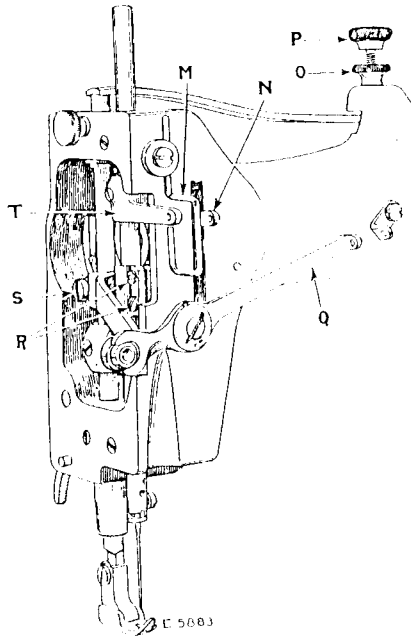
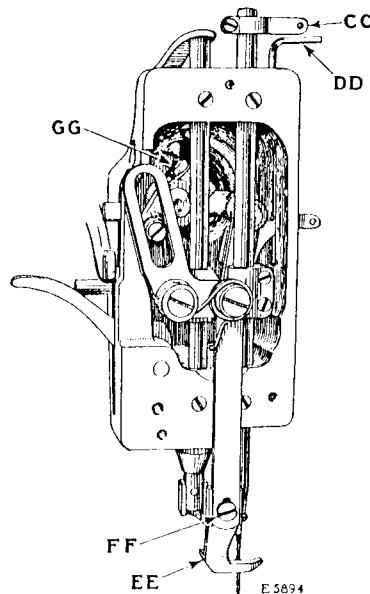

Fig. 2
FIG. 7
In case the needle bar is not set at the correct height, loosen the two screws (R, Fig. 2) in the needle bar connecting stud and move the needle bar up or down, as may be required, then tighten the two screws (R).
The needle thread take-up (T, Fig. 2) is usually set so that its eyelet is about in line with the eyelet in the thread controller (N, Fig. 2) when the needle bar is at its highest point. The needle thread take-up (T) can be adjusted to the required position after loosening the screw which holds it in position on the needle bar.
The purpose of the slack thread regulator (Q, Fig. 2) is to regulate the amount of thread drawn through the tension at the finish of the upward stroke of the needle bar, according to the thickness of the material under the presser foot. The slack thread regulator can be adjusted to the required position on the presser bar after loosening the clamping screw (S, Fig. 2) which holds the regulator arm in position on the presser bar. When the desired adjustment of the slack thread regulator is obtained, securely tighten the clamping screw (S).
The slack thread controller (M, Fig. 2) controls the pulling up of the needle loop as it is cast off by the looper. Care must be taken not to have the slack thread controller too high or it will pull the thread too hard before the loop is off the looper, breaking the thread, or it will pull the thread from the tension when not required, causing imperfect stitching. The slack thread controller can be set at the required height after loosening the screw which holds it in position.
The pressure on the material is regulated by means of the thumb screw (P, Fig. 2) at the top of the machine. To increase the pressure, loosen the lock nut (O, Fig. 2) and turn the thumb screw (P) downwardly. To decrease the pressure, turn the thumb screw (P) upwardly. When the desired amount of pressure has been obtained, firmly tighten the lock nut (O).
The needle thread take-up (CC, Fig. 7) should be adjusted to act in conjunction with the slack thread controller (DD, Fig. 7) which is adjusted the same as the slack thread controller (M, Fig. 2) as instructed on page 6.
The vibrating presser foot (EE, Fig. 7) should be adjusted so that it does not come in contact with the lifting presser foot. The vibrating presser foot can be adjusted to the required position, after loosening the two screws (FF and GG, Fig. 7).